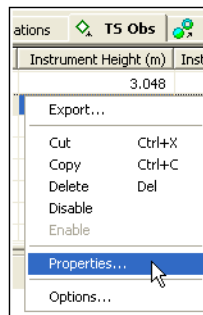

Figure 5-90. Open Properties
1. To add a new instrument type to the instrument list or edit a current instrument type, right-click a TS occupation and click **Properties** on the pop-up menu (Figure 5-90).